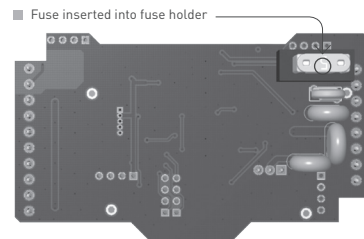

Figure 2 – Underside of the top PCB
- 8 locate the fuse on the underside of the PCB, remove the old fuse from the holder and replace it with a new one [see Figure 2]